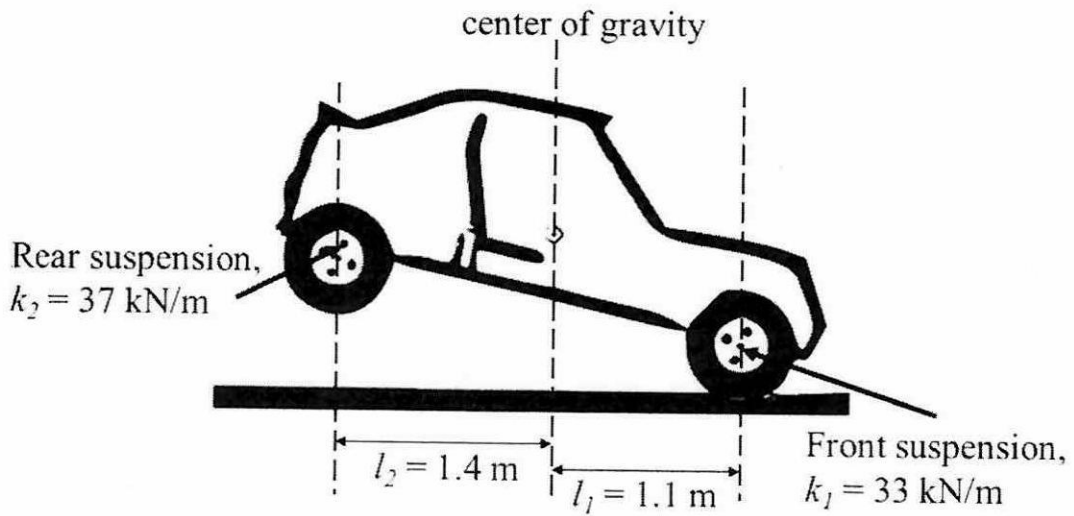

Figure Q4
**Q4** **Figure Q4** shows a rally car that has just jumped off a cliff in one of the World Rally Challenge. The car consists of two suspensions system (front and rear) which have different stiffness value. The front suspension system has stiffness coefficient value,  $k_1 = 33 \text{ kN/m}$  while the rear suspension stiffness coefficient value,  $k_2 = 37 \text{ kN/m}$ . The distance of each suspension system to the center of gravity is  $l_1 = 1.1 \text{ m}$  and  $l_2 = 1.4 \text{ m}$  respectively. The mass of the car is given as  $m = 1,350 \text{ kg}$  while the radius of gyration,  $r_G = 1.2 \text{ m}$ . By neglecting the damping coefficient of the suspension system: